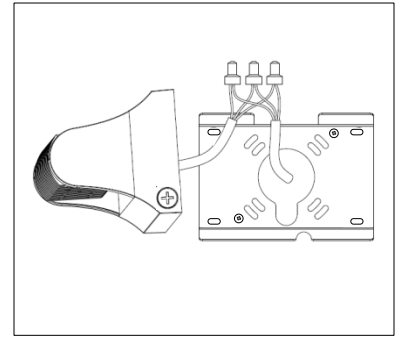

Figure 6
6. Connect the incoming power wires to the luminaire power wires (see Figure 6). Refer to the Wiring Diagram.
9. To achieve a water-tight seal, attach the luminaire gasket to the luminaire housing (see Figure 6). For additional sealant, apply waterproof silicon to the gasket prior to attachment.